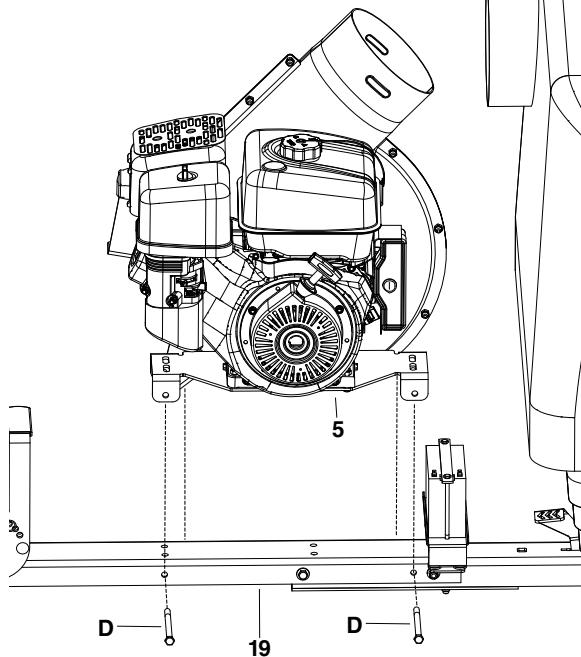

FIGURE 18
- Place the engine assembly (5) onto the front tongue assembly (19) as shown below lining up the holes. Making sure the ignition switch is on the left side.
- Install a 3/8" x 5-1/4" bolt (D) in the rear hole from the left side through the engine assembly (5) and front tongue assembly (19).
- Partially install a 3/8" x 5-1/4" bolt (D) in the front hole from the left side through the engine assembly (5). See figure 18.